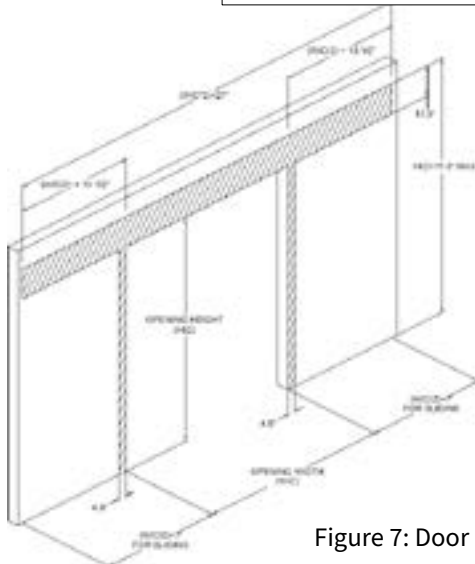

Figure 7: Door Measurements
- 4 Based upon the dimensions in Figure 7, determine that door will have sufficient wall space to slide open.